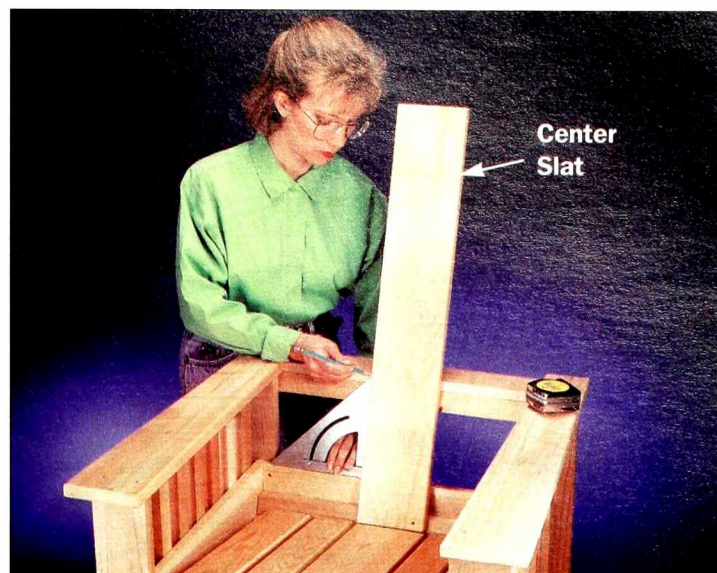

Figure 6: Add back and seat slats, starting in the middle and working out. Keep the slats square to the frame.
- Center the wide seat slat (N) inside the box. Drill and screw it in place using two screws on each end.
- Position the wide center back slat (Q) on top of the center seat slat N and use a square (Figure 6) to mark the correct vertical position so that all of the slats will be perfectly upright. Screw Q into place. Repeat the process for the remaining back slats.
- Glue and screw upper back brace (K) into the back slats using one screw in each narrow slat and two in the middle slat. Be sure to use 1¼-inch screws.